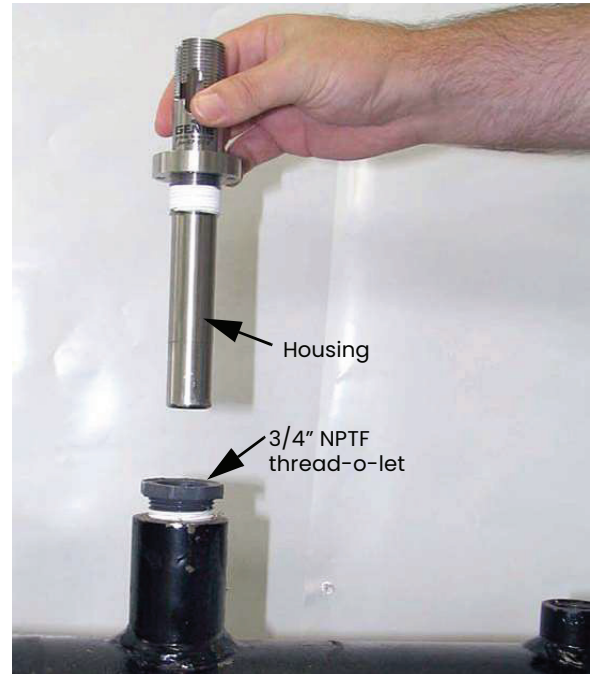

Figure 12: Inserting housing into pipeline
2. Confirm that the pipeline has been unpressurized. Refer to *Figure 12* below and insert the housing into the pipeline through a 3/4" NPTF thread-o-let (The minimum ID of the thread-o-let is 0.91").